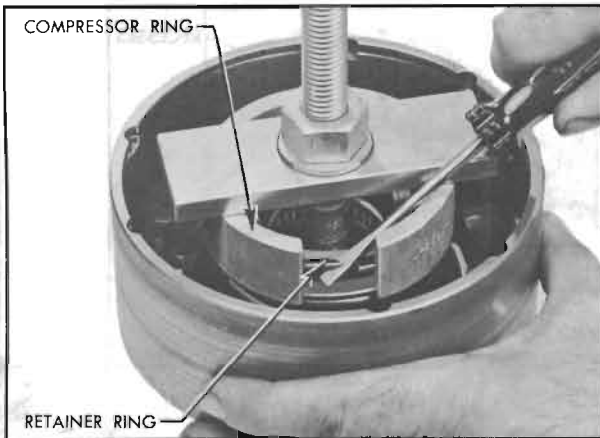

Figure 5-73—Using Clutch Spring Compressor J 2590
3. Install Clutch Spring Compressor J 2590 in assembled drum, placing the slot in compressor ring over the ends of spring seat retaining ring. Compress clutch spring sufficiently to remove the retaining ring. See figure 5-73.
2. Place clutch spring in piston and place spring seat and seat retaining ring on spring. Install Clutch Spring Compressor J 2590 (fig. 5-73) and compress spring until the retaining